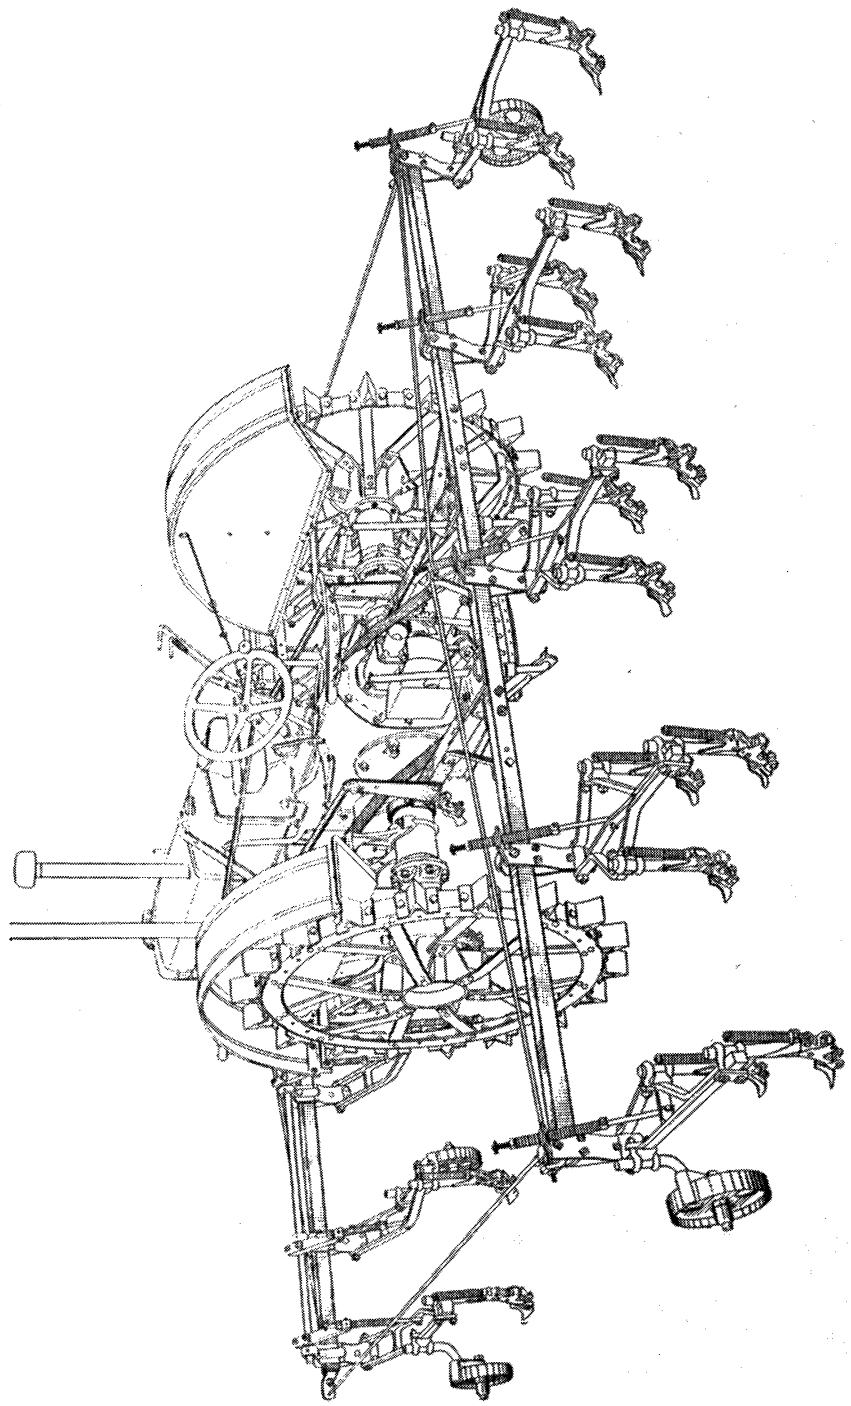

Fig. 1
3. Insert hook end of short lift rod into bracket on rear pipe support as shown in Fig. 1, and secure with cotter. Secure flat end of rod to lever quadrant with pin and cotter, having the head of pin toward the outside.